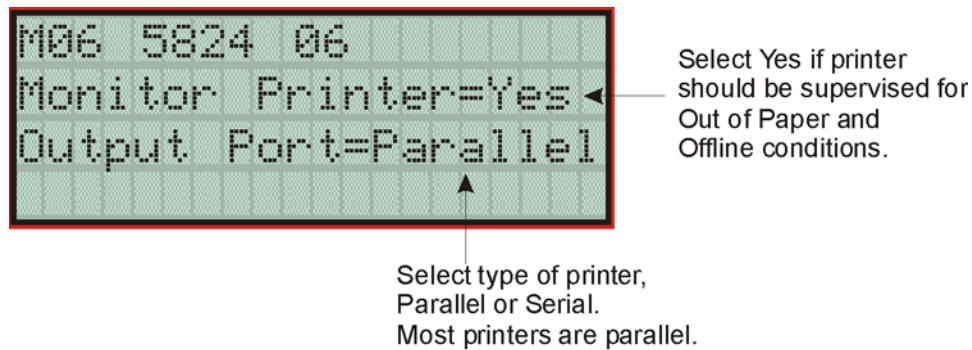

Figure 4-19 Selecting Printer and Output Port Options
5. Press **[ENTER]** **[ENTER]** to bypass the next two screens. A screen similar to the one shown in Figure 4-19 will display.